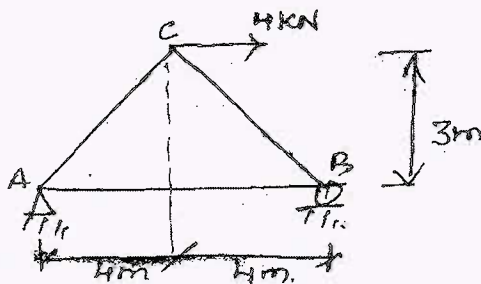

Fig.Q5(b)
b. Using Castigliano's theorems, determine the vertical displacement of joint C of the truss shown in Fig.Q5(b).  $A = 400\text{mm}^2$ ,  $E = 200\text{GPa}$ . (10 Marks)